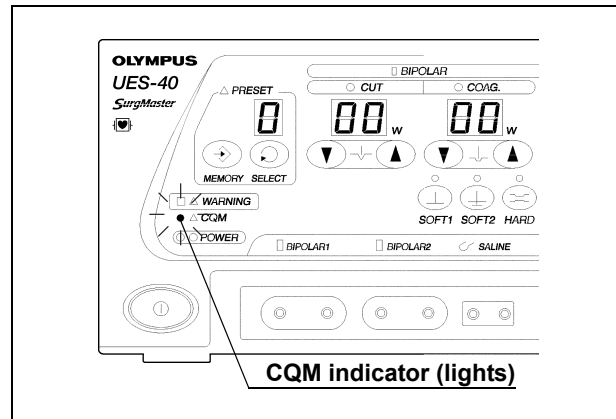

Figure 4.8
4. When a split-type patient plate is used, confirm that the CQM indicator lights. The CQM indicator only lights when the contact between the patient plate and the skin of the patient is correct (see Figure 4.8).